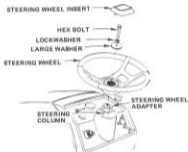

FIGURE 7
- Remove Hex Bolt, Lockwasher and Large Washer (Fig. 7) from steering Column.
- Secure Steering Wheel to Steering Column using Large washer, Lockwasher and Hex Bolt (Fig. 7).